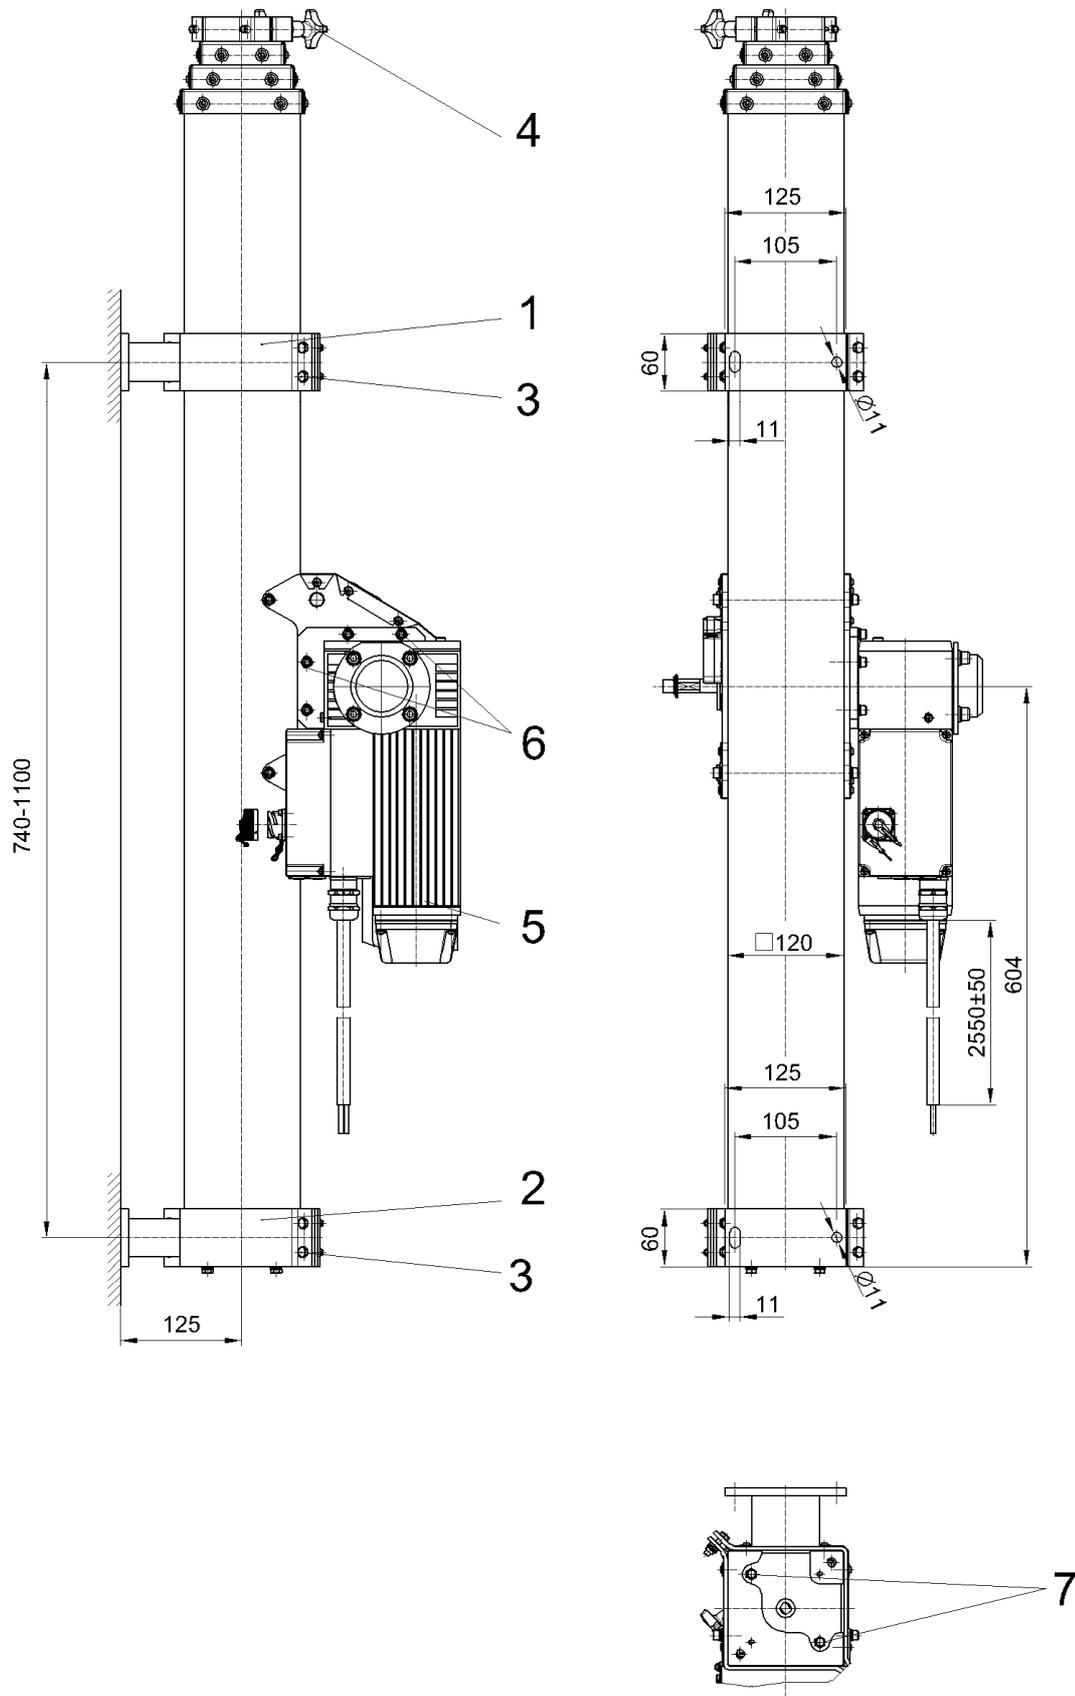
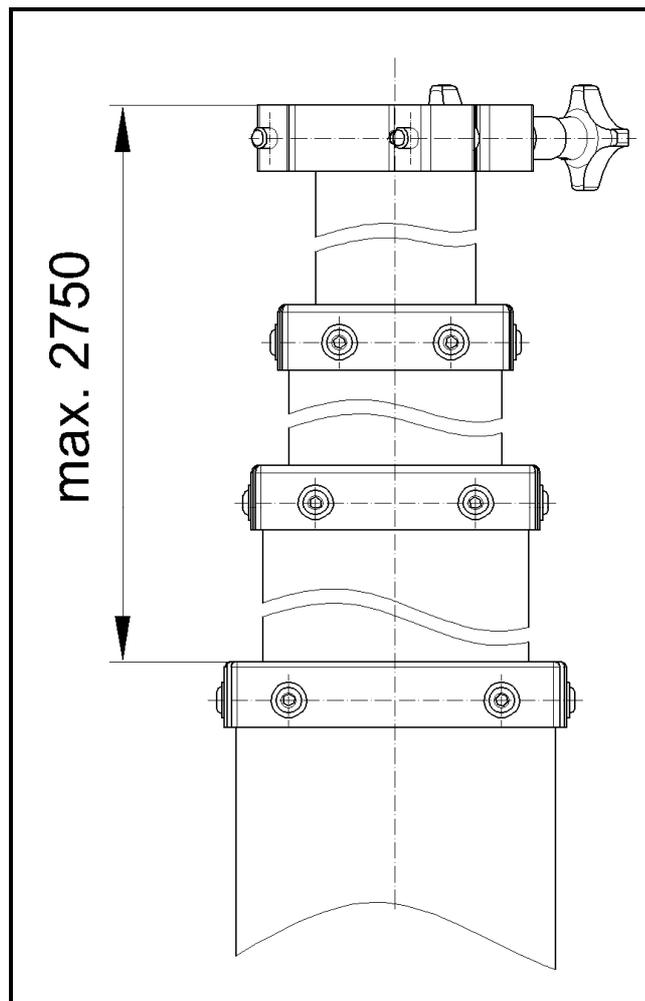

figure 1
figure 3
A minimum distance of 740 mm between the fastening positions has to be met. For mounting example please see figure 3.
Make sure that the upper clamp (fig. 3/pos. 1) and the lower clamp (fig. 3/pos. 2) are aligned in a row and that the mast is mounted vertically.
- After removing the four screws (fig. 1/pos. 3) open the upper (fig. 3 /pos. 1) and lower mast clamp (fig. 3 /pos. 2).
- Now, the upper and lower clamp (fig. 3/pos.. 1) close again by each clamp each for all four screws (fig. 1/pos. 3).
- After the lower clamp is closed, the two screws (fig. 1/ pos. 7) must be attached to the mast base.
- c) Insert mast head for mounting antennas into last mast stage and fasten star handles (fig. 1/pos. 4) as required by the overall construction of the mast assembly, mounting other required parts such as accessories, cables etc., as supplied by the vehicle manufacturer.
- c) Place motor drive on the wrist pin at the mast gear and fasten it using three hexagon head cap screws (fig. 1/pos. 5).
- d) Use motor drive to cautiously extend the mast to an extension length of 2750 mm measured from the mast top to the upper edge of the base stage head frame (see fig. 3).
- a) Insert mast head for mounting antennas into last mast stage and fasten star handles (figure 1/position 4) as required by the overall construction of the mast assembly, mounting other required parts such as antennas, cables etc., as supplied by the vehicle manufacturer.
Remove the three fastening screws and dismount motor drive (fig.1/pos.5). When re-mounting motor, the limit switches will have to be re-adjusted as described in paragraph 2.4.
- e) Lubricate the star handle screws (figure 1/position 4) for mounting the top of the mast using machine oil.